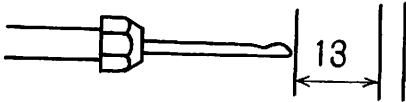

FIG. 5
(At the same time, Eccentric Cam ⑦ should be slightly touched with bushing.) The position of Needle is adjusted so that the distance between the top of Needle and Throat Plate is to be 13 mm. by loosening Nut ⑥ in Fig.4, Needle Bar can be moved as shown in Fig.5.